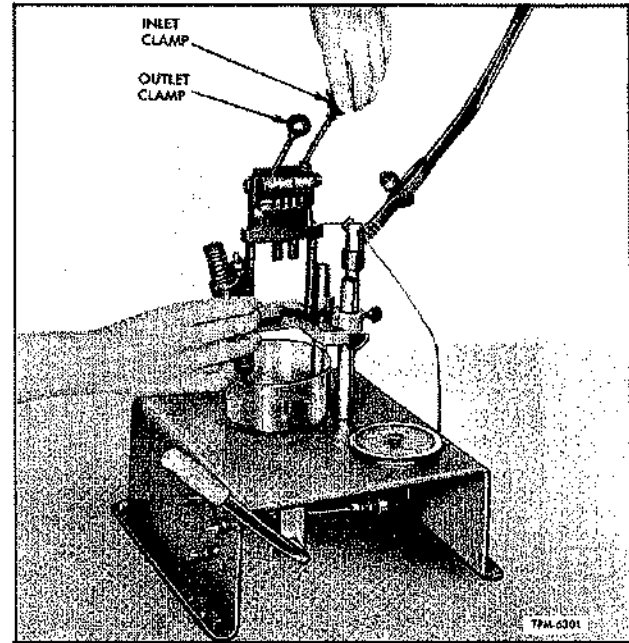

Figure 10—Installing Injector in Testing and Popping Fixture
1. Place the injector in testing and popping fixture, figure 10, with dowel on underside of injector located in the proper slot of the set. When testing offset body injectors, install adapter plate on the test fixture. Position injector support plate and popping handle support to the proper height.